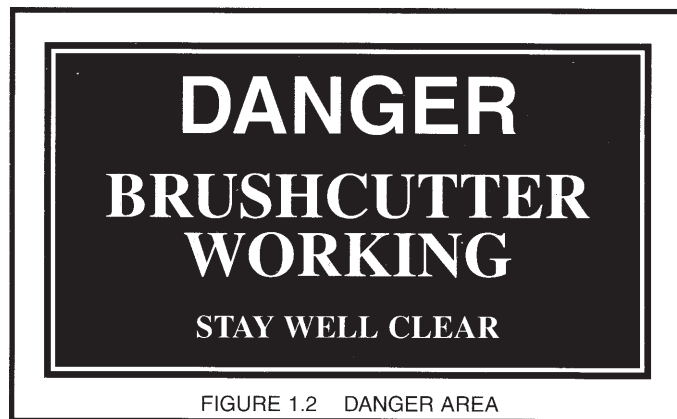

FIGURE 1.2 DANGER AREA
2. Post "DANGER" signs as in Figure 1.2 to warn pedestrians and vehicles of the danger and to prevent them from inadvertently wandering into the area. Obey local regulations and by-laws wherever applicable.